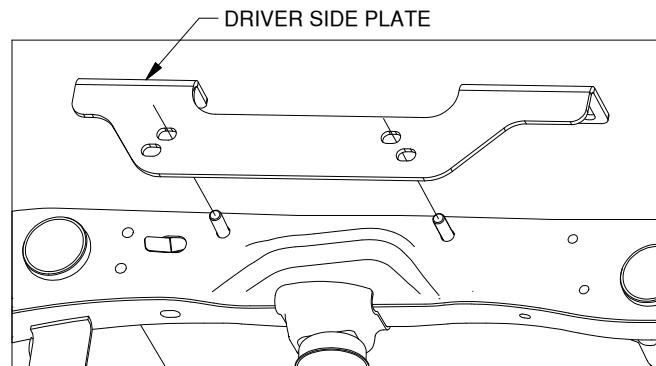
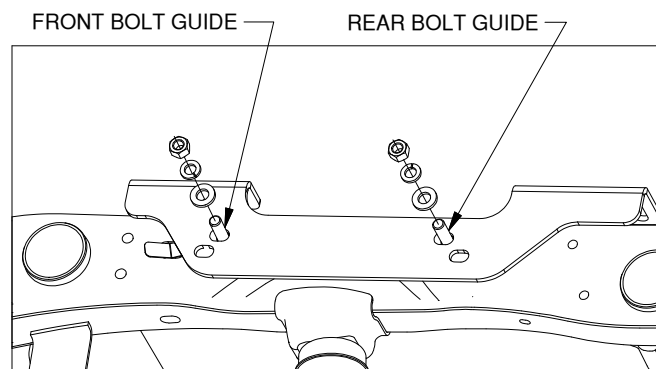

Figure B9: View from outside of driver side frame.
Figure B10: View from outside of driver side frame.
- 3. Install the side plates.** Place each side plate onto the 5/8" bolts held in place by the bolt guides, see Figure B9. Attach the side plates to the frame with a flat washer, lock washer, and nut, see Figure B10. Do not tighten the mounting hardware at this time.